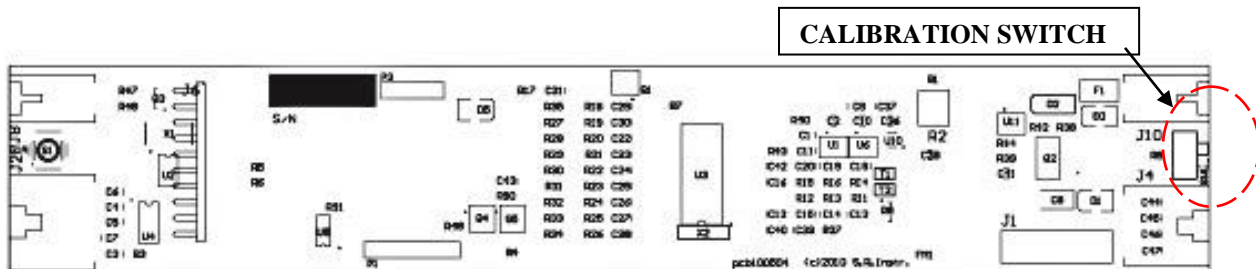

Figure 11: Calibration Switch Diagram
STEP 1: Access the Calibration Switch by breaking the Calibration Seal on the underside of the display extrusion. Put the scale system into the Calibration Mode by switching the calibration switch on the display board (Figure 11).
STEP 10: Switch the scale system out of the Calibration Mode on the display board (Figure 11).